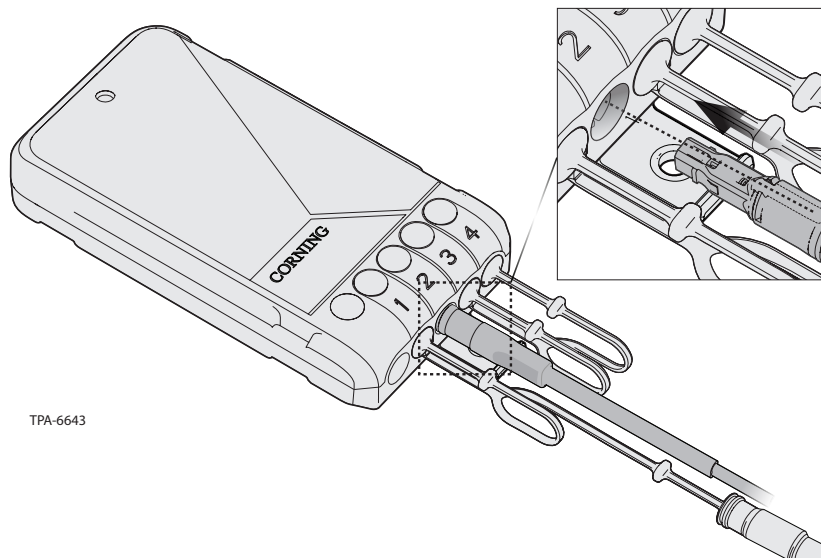

Figure 27
Step 8: Insert the connectorized drop cable into the drop connector port. Orient the notch on the connector with the port button in the terminal (Figure 27).